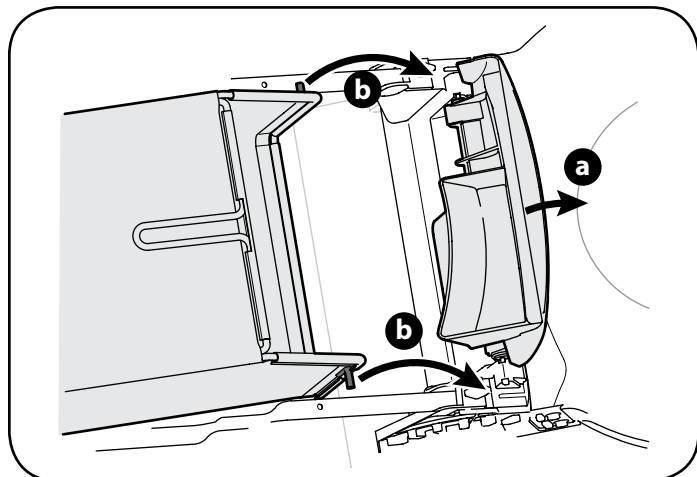

Figure 10
- Place grass catcher into the slots in the handle brackets as shown in Figure 10. Let go of discharge door so that it rests on the grass catcher.